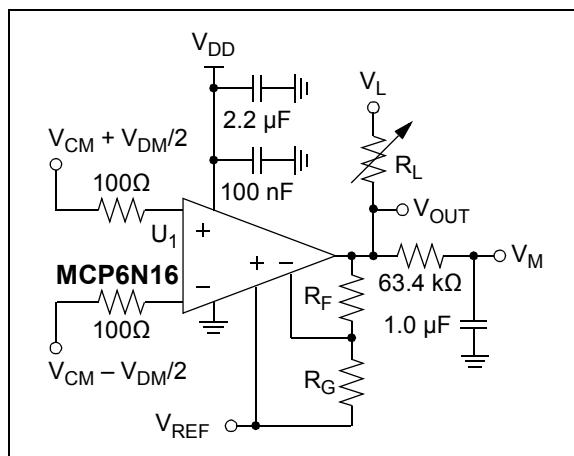

FIGURE 1-8: Simple Test Circuit for Differential Mode.
- 2:** These parameters were characterized using the circuit in Figure 1-8. In Figures 2-75 and 2-76, there is an IMD tone at DC, a residual tone at 100 Hz and other IMD tones and clock tones.
Figure 1-8 is a simple circuit that can test the INA's differential gain error, nonlinearity and input voltage range (g_E , INL_{DM} , V_{DML} and V_{DMH} ; see Section 1.5.3 “Differential Gain Error and Nonlinearity”). R_F and R_G are 0.01% for accurate gain error measurements.
The circuit in Figure 1-8 can test the input's dynamic behavior (i.e., IMD , t_{STR} , t_{STL} , t_{IRC} , t_{IRD} and t_{OR}); measure the output at V_{OUT} , instead of at V_M .